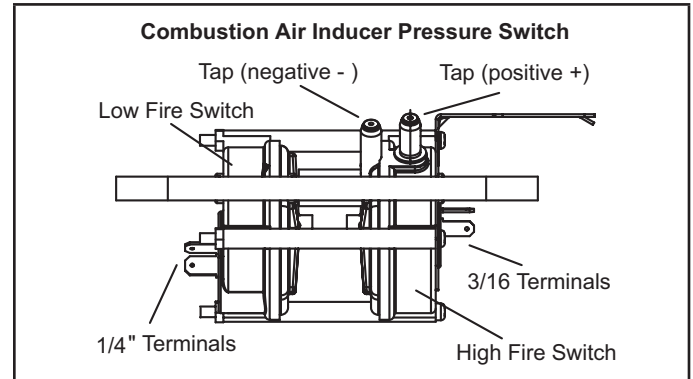

FIGURE 16
8. Combustion Air Inducer Pressure Switch (S18) (FIGURE 16)